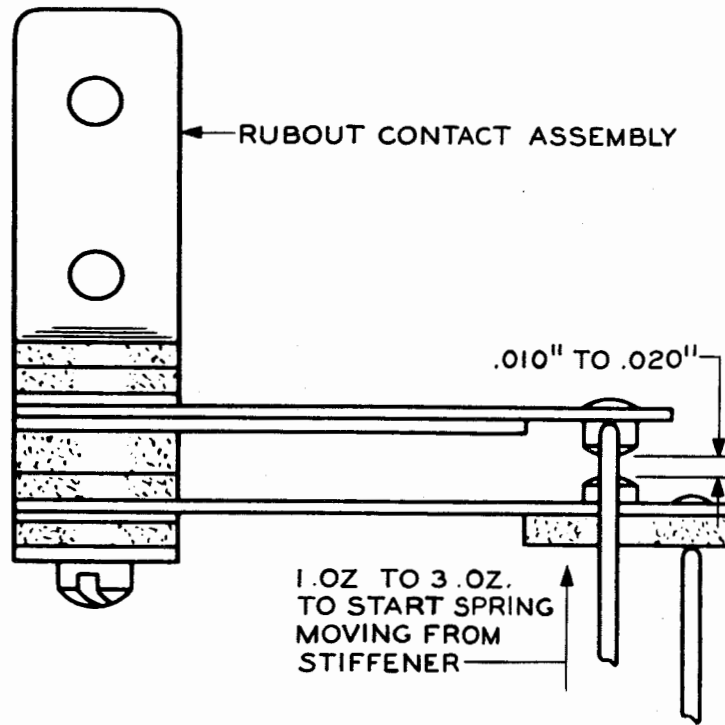

Figure 5
2.16 Rubout Inner-contact Spring Tension: With the push end of a scale applied in line with the contact point, it should require a push, minimum 1 ounce, maximum 3 ounces, to start the inner-contact spring moving away from its stiffener. (See Figure 5.)
2.17 Rubout-contact Gap: With the rubout-bail lower extension held away from the contact spring, there should be a clearance of minimum 0.010 inch, maximum 0.020 inch between contact points. (See Figure 5.)